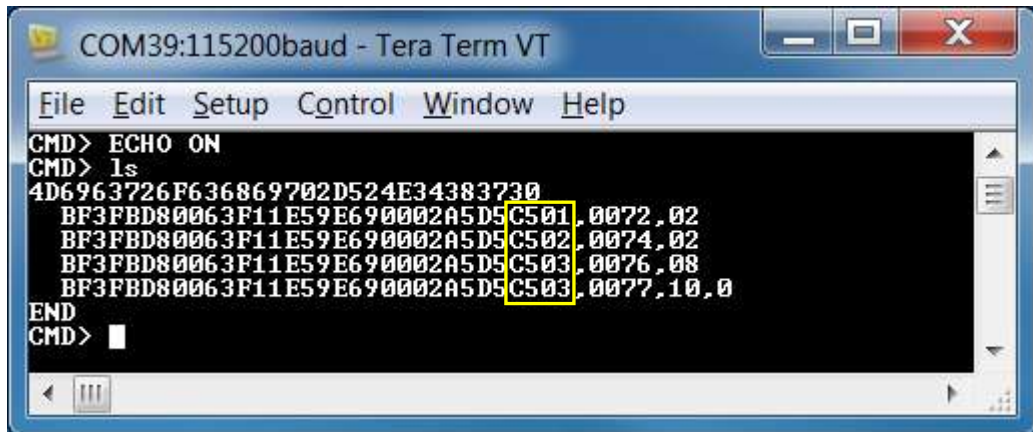

Figure 13: Private Services display from “LS” command
- c. The response should be as illustrated below in fig 13.